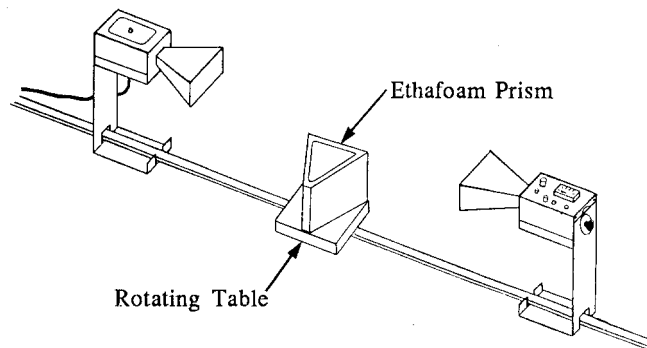

Figure 4: Equipment Setup
1. Arrange the equipment as shown in figure 4. Rotate the empty prism mold and see how it effects the incident wave. Does it reflect, refract, or absorb the wave ?